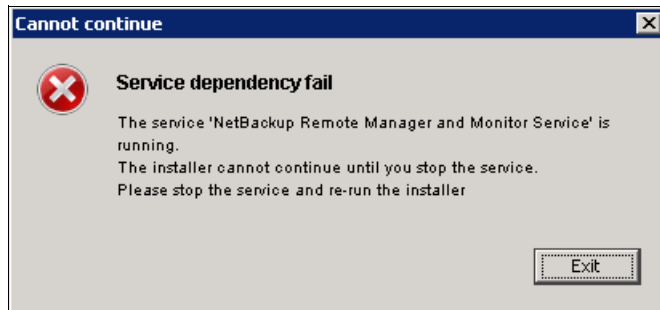
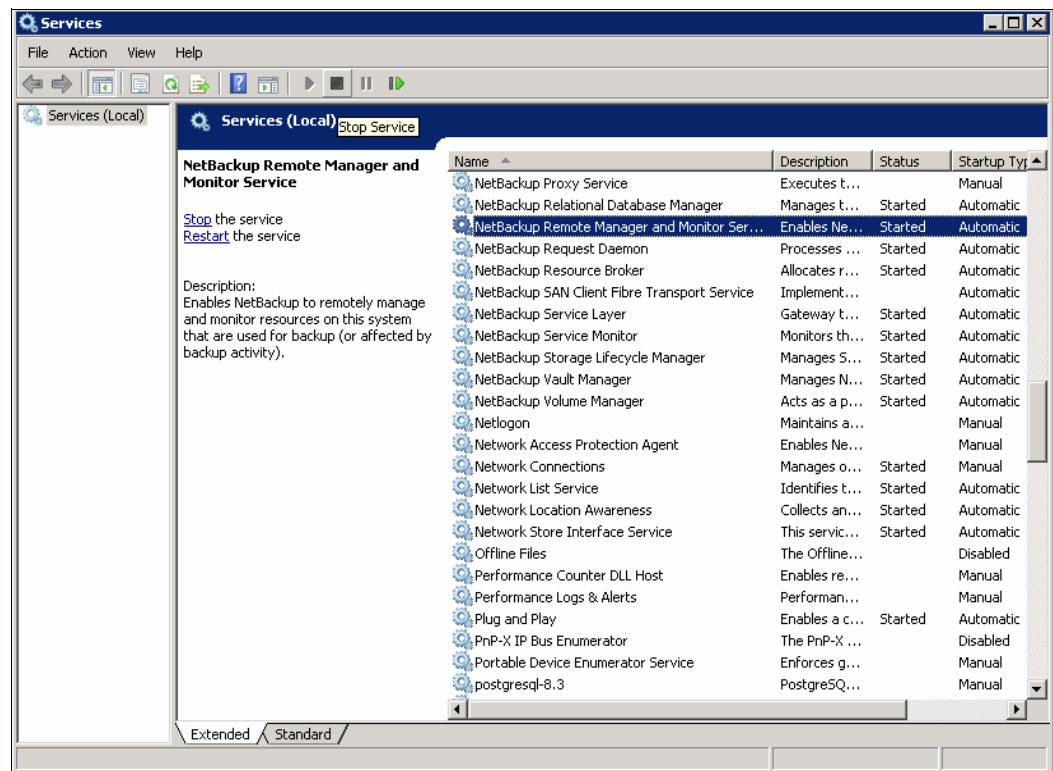

Figure 9-13 Message about NetBackup Service
Figure 9-14 Stop the Netbackup Remote manager and Monitor service
2. Click **Next**. The installer prompts you to stop the NetBackup Remote Manager and Monitor Service if it is running (see Figure 9-13). To stop this service, select **Start** → **Run** and enter `services.msc` to stop the service and restart the installation, as shown in (Figure 9-14).